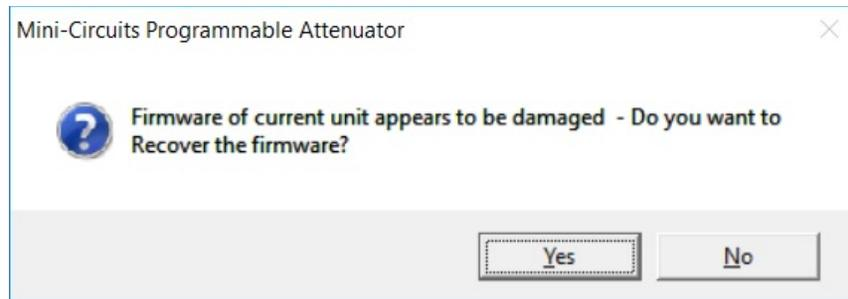

Figure 3.9.1 Firmware – recovery option (Legacy)
3.9.1 For all models except RCDAT-xG-120H, open the GUI and attempt to establish a USB connection. An alert should appear (See **Fig 3.9.1**) advising that the corrupted attenuator has been identified, click 'Yes' to proceed and refer to steps **3.8.3 - 3.8.8** above, or 'No' to cancel.